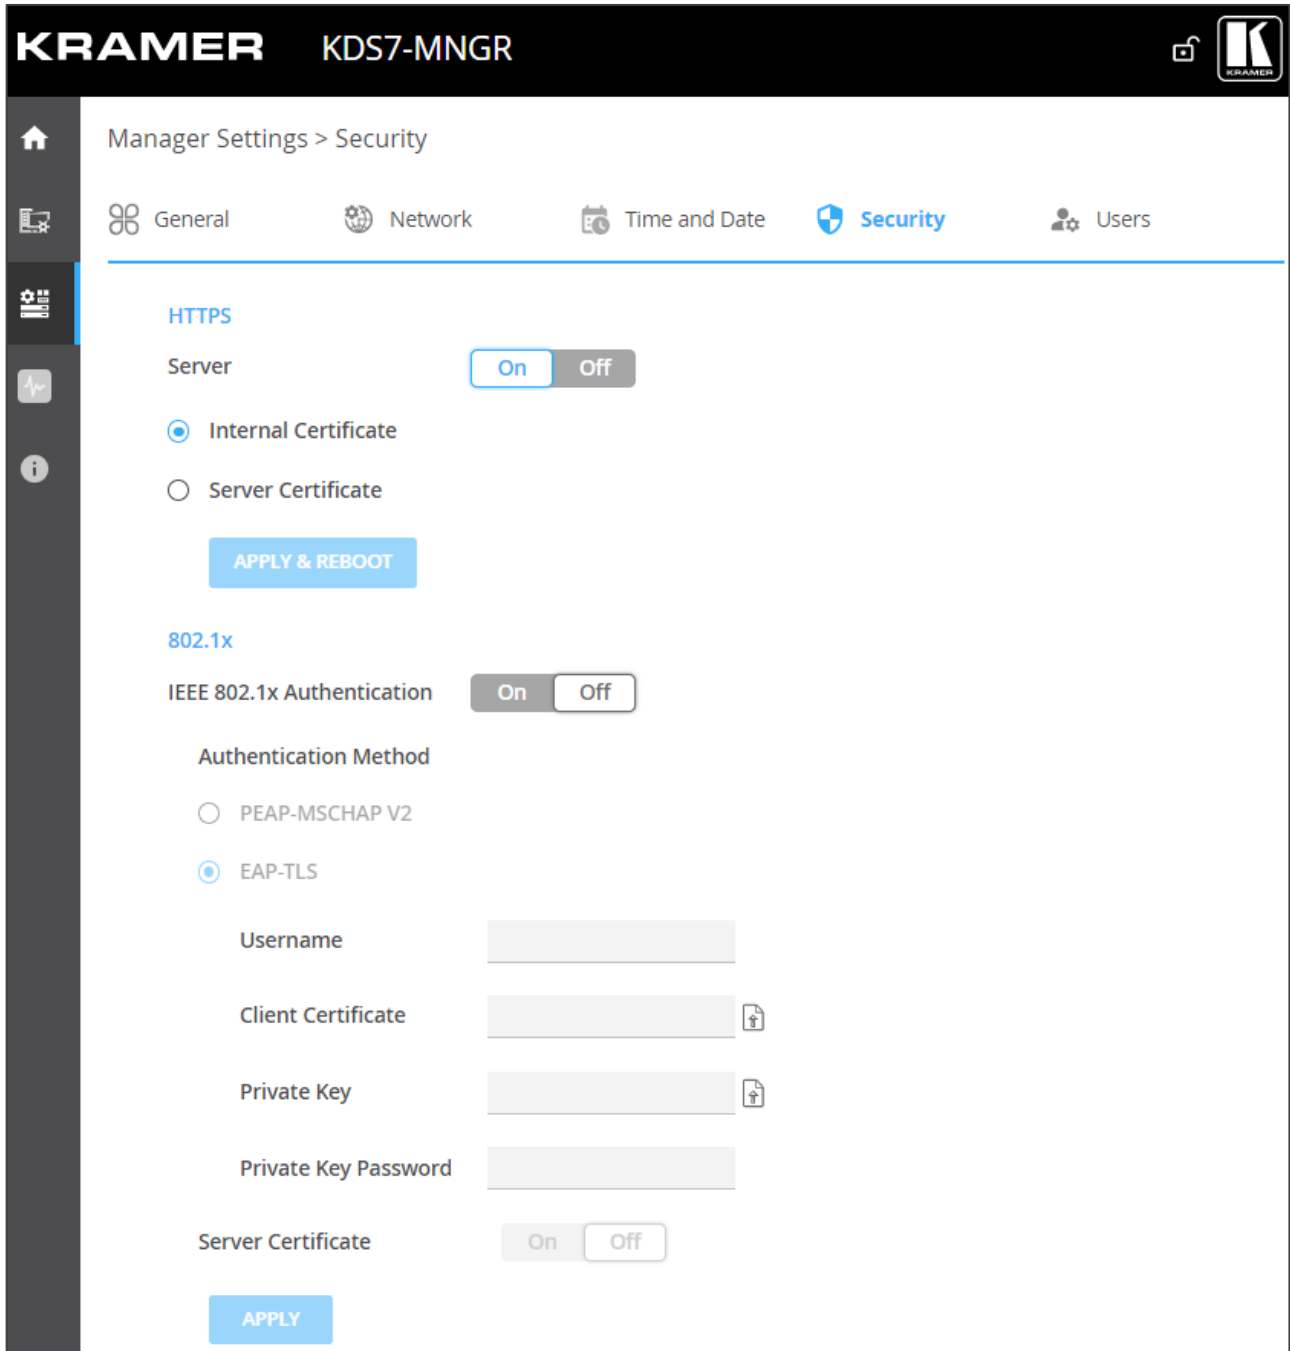

Figure 54: Device Settings – Security Tab
2. Select **Security** tab. The Security tab appears (see Figure 54).